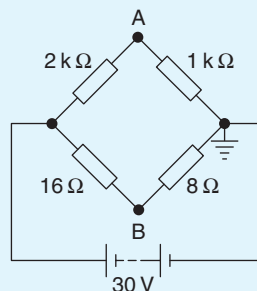

Figure 5.39
- In the bridge circuit of Fig. 5.39 calculate (a) the absolute voltages at points A and B, and (b) the voltage at A relative to B.